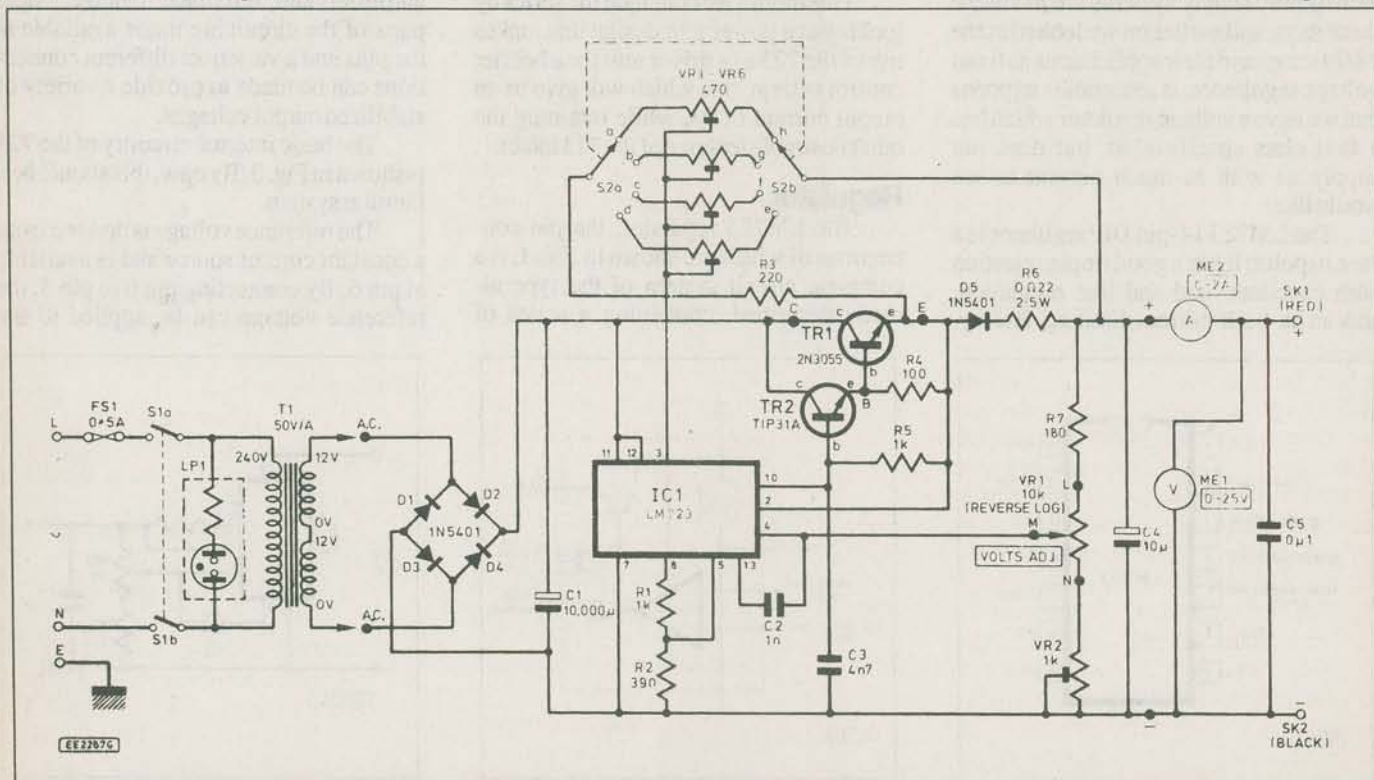

Fig. 4. Complete circuit diagram for the 1.5V/25V Variable Power Supply. The solid circles refer to circuit board connection points.
the 2A power unit is shown in Fig. 4. Here a conventional bridge rectifier feeds the 723 (IC1) which in turn drives the power booster combination of transistors TR1 and TR2. Transistor TR1 (a 2N3055) is the conventional series emitter-follower controller which is itself driven by TR2, a small power transistor, type TIP31A. This is necessary as the output of IC1 (723) is insufficient to drive TR1 directly.
It is suggested that both voltage and current meters be fitted to the complete unit. A voltmeter is almost certainly necessary and an ammeter is well worth inclusion. The circuit for the two meters is shown between the Volts Adjust control and the output terminals in Fig. 4. These are wired between the board output terminals and the front panel of the unit. If the specified meters are used, no rescaling is necessary.
The interwiring connections are made in accordance with the circuit diagram Fig. 4, board layout Fig. 6 and Fig. 10. It is best to start by wiring up the meters and connecting these to the positive (+) and negative (-) output points on the board. Use flexible 16/0.2mm wire for this.